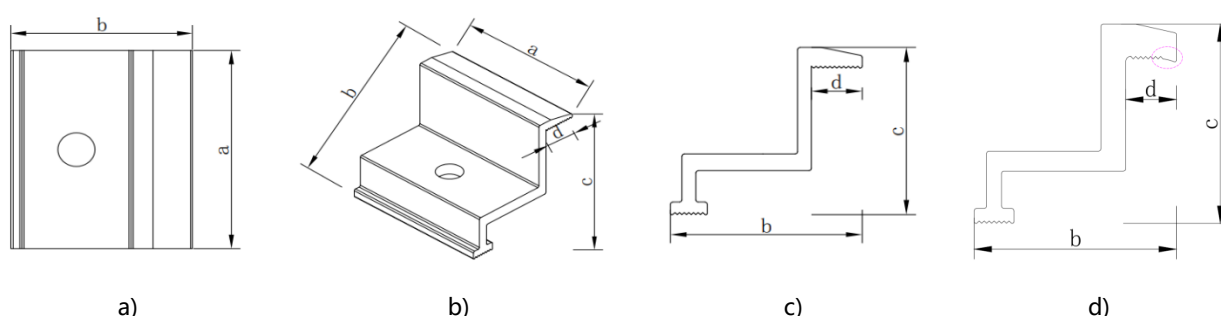

Figure 7 Recommended clamp schematic
- Modules with a length greater than 2.2 m and a width greater than 1.3 m are required to be mounted with the camber clamps shown in Fig. 7 d), which enables the clamps to fit better with the frame and provide more stable performance under extreme environmental conditions.